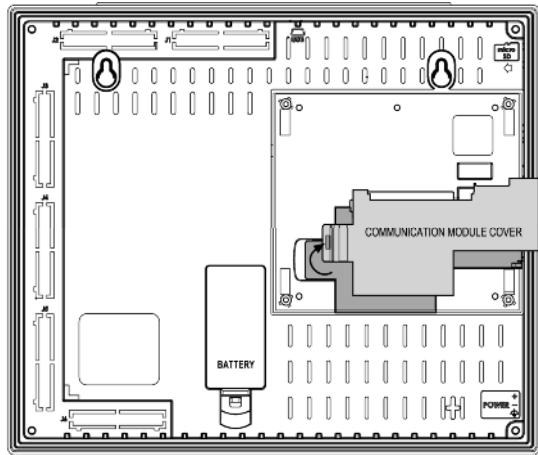

Figure 4. Communication Module Cover
2. Open the communication module cover shown in Figure 4 .